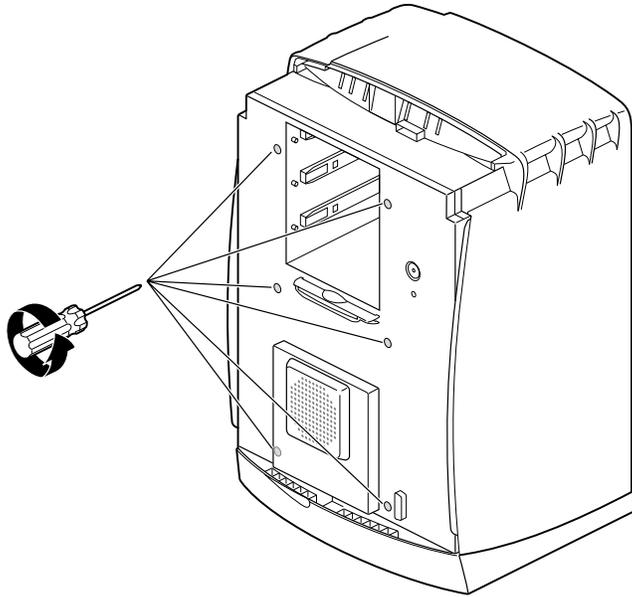

Figure 7-23 Loosening the Captive Screws on the Frontplane Module
2. Loosen the six captive screws holding the frontplane module to the chassis, as shown in Figure 7-23, until the screws are loose in their sockets.